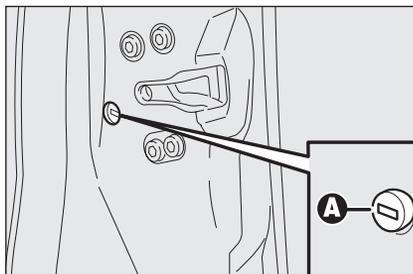

fig. 92
- fit the electronic key metal insert into **A-fig. 92**;
- remove the key from **A-fig. 92** and then refit the plug on the door.